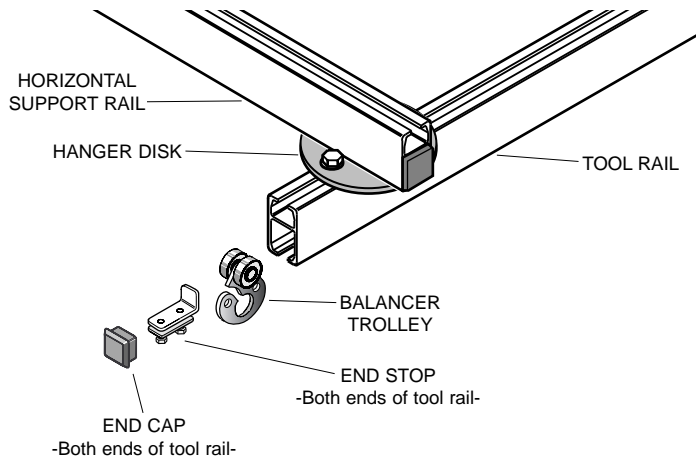

Figure 7
21. Install balancer trolley, end stops and end caps in 48" tool rail (Fig. 7).